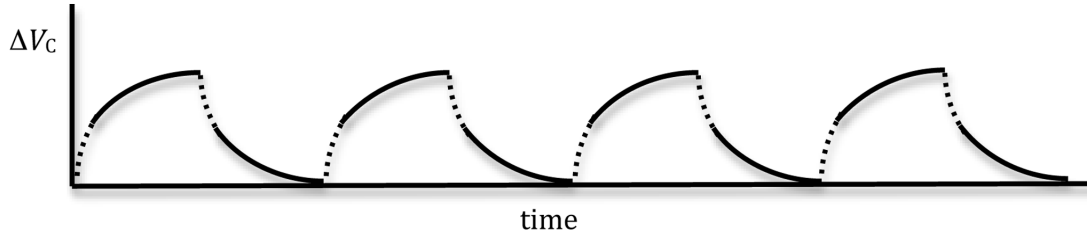

Figure 4: Voltage across the capacitor as a function of time
Note that these two equations are similar in form to Eq. (3) and Eq. (5). The graph of the voltage across the capacitor versus time is shown in Fig. 4 below.
When the time t is larger than the time constant τ of the RC circuit, the capacitor will have enough time to charge and discharge, and the voltage across the capacitor will be as shown in Fig. 4.